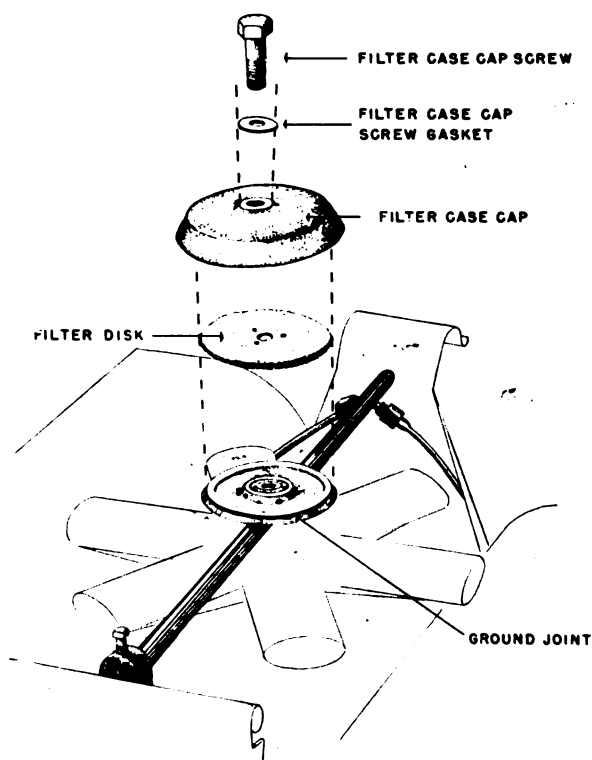

Figure 46. Original filter assembly, unit, fire, M1937.
(1) *How to clean filter case* (see fig. 46). (1) a The M1937 fire unit may be equipped with one of two types of filters. The instructions contained in this paragraph are applicable to the original type only. The new type, issued with the two new conversion sets, is discussed in paragraph 37.
(c) To change the filter disk, remove the filter cap screw and lift out gasket and filter cap. Take out the dirty filter disk. (See fig. 46.)